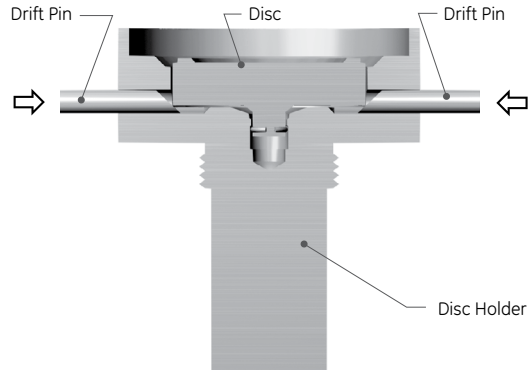

Figure 30: Removing the Disc with Drift Pins
- 2. Using a three- or four-jaw chuck welded vertically to a stand bolted to a concrete floor, clamp the nozzle into the chuck and break the body loose with a heavy rod or pipe (Figure 30).